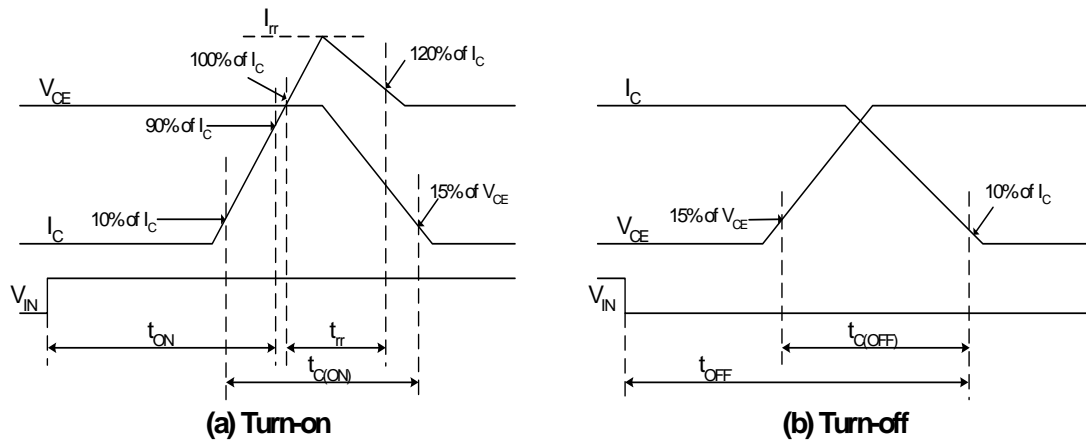

Figure 4. Switching Time Definition
2. t_{ON} and t_{OFF} include the propagation delay of the internal drive IC. $t_{C(ON)}$ and $t_{C(OFF)}$ are the switching time of IGBT itself under the given gate driving condition internally. For the detailed information, please see Figure 4.